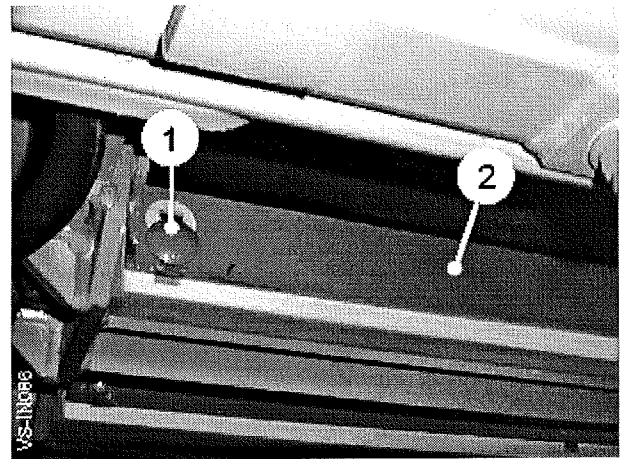

Fig 21
Scrapers are fitted to prevent excessive build up of soil and trash damaging or stalling the cleaner unit. To adjust the scrapers, slacken the mounting bolts (item 1, fig 21) and slide the scraper blade (item 2, fig 21) up until it is 2-3mm clear of the roller. Re-tighten the mounting bolts and check that the rollers do not foul on the scraper blades when running.